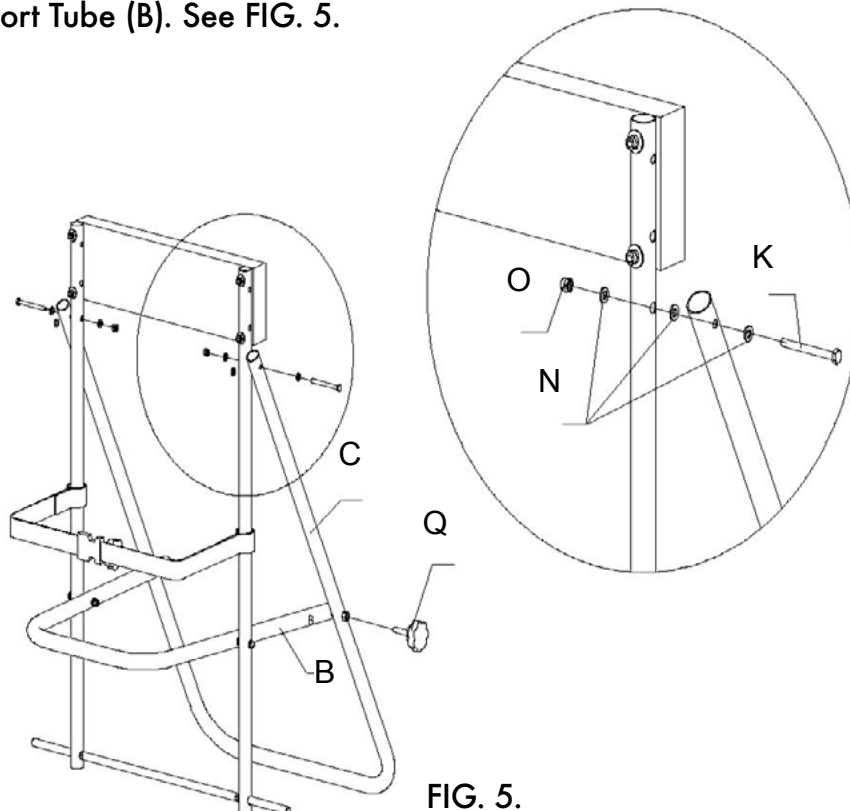

FIG. 5.
Step 5. Fix the U Support Tube (C) on Vertical Straight Tube (E) with M6*65 Bolt (K), 6 * 12 Flat Washer (N) and M6 Lock Nut (O). Screw the Turn Knob M8*40 (Q) into U Support Tube (C) and connect to Support Tube (B). See FIG. 5.